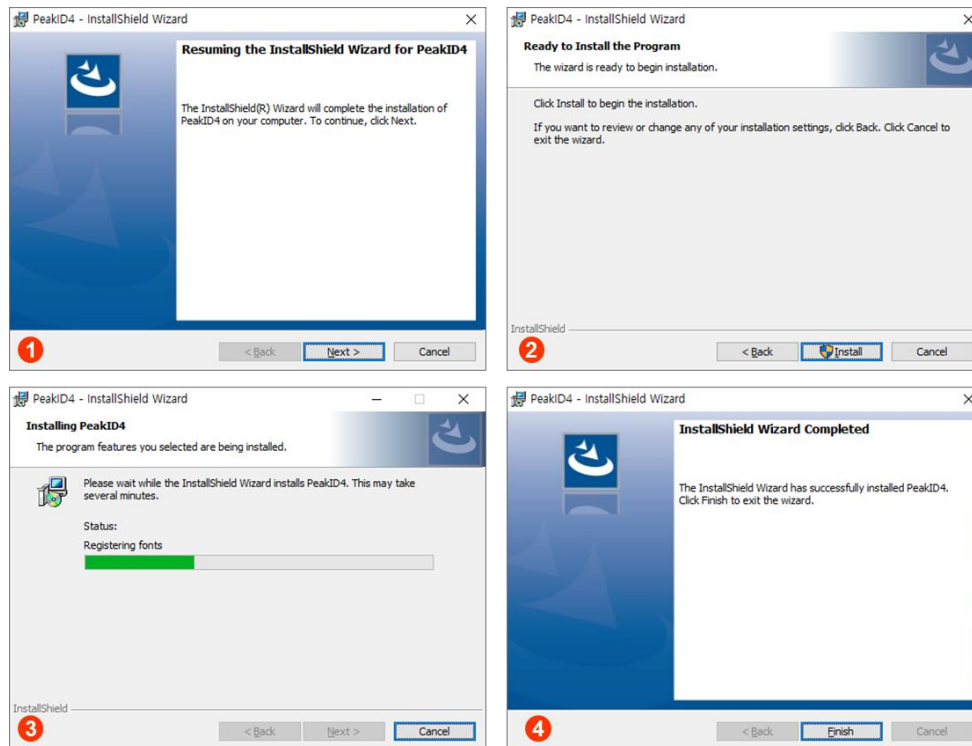

Figure 16 InstallShield Wizard for VisionCore™ (initial screen)
3. Follow the on-screen prompts in the **InstallShield Wizard** (*see Figure 16*).